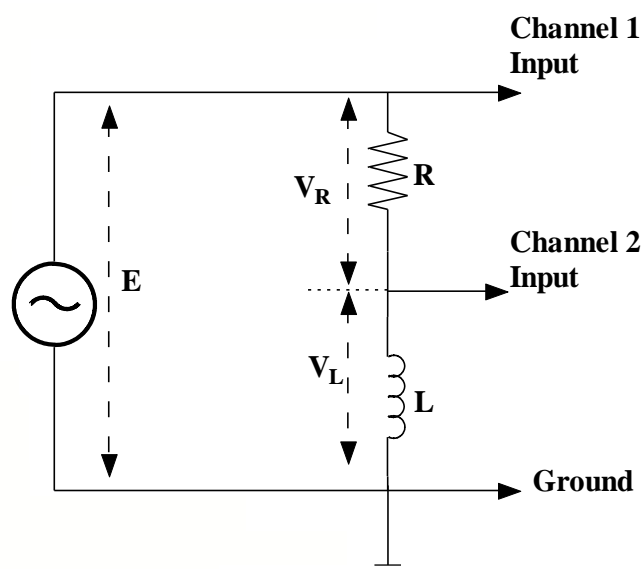

Figure 1
1. Connect the 4H inductor and 4.7 k Ω resistor to the signal generator as illustrated in Fig.1.
2. Connect the oscilloscope to monitor the input voltage (E) and the inductor voltage (V_L). **The two ground terminals of the oscilloscope inputs should be connected to lower terminal of the inductor.**